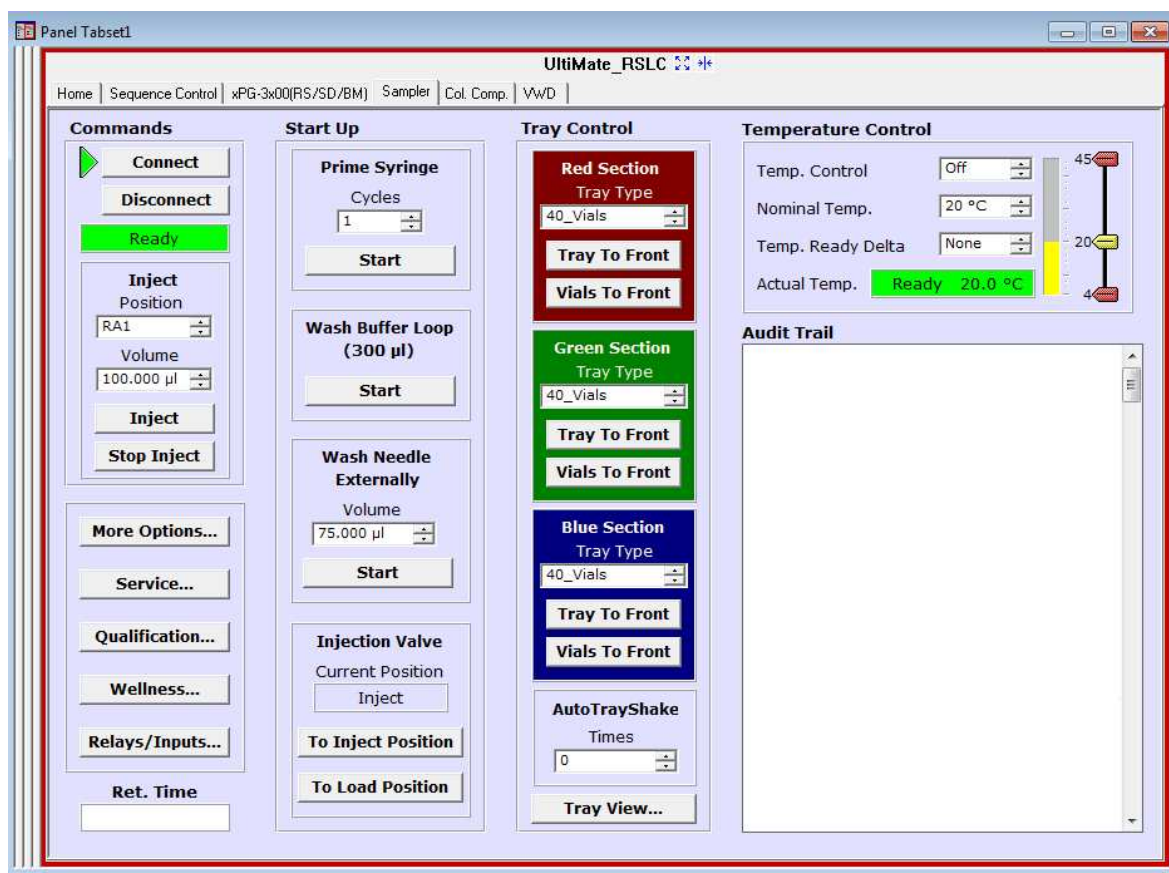

Fig. 28: Autosampler Control Panel on the Panel Tabset
Chromeleon creates centralized control panels, called panel tabsets (→ Fig. 28, page 74), for all timebases available on the Chromeleon server. A panel tabset provides control panels for the individual instruments in a timebase and, in addition, one or more panels for performing system-wide functions, for example, creating and running sequences. For more information about panel tabsets, see the *Chromeleon Help*.
2. On the **Panel Tabset** for your timebase, click the **Sampler** page (→ Fig. 28).